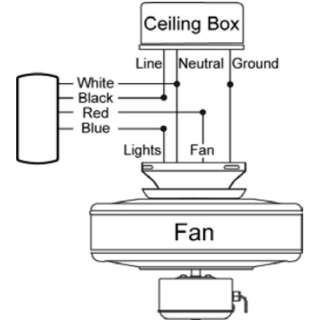

Figure 1.1
- ▶ Connect the wires together as shown on Page 7 or as shown in Figure 1.1.